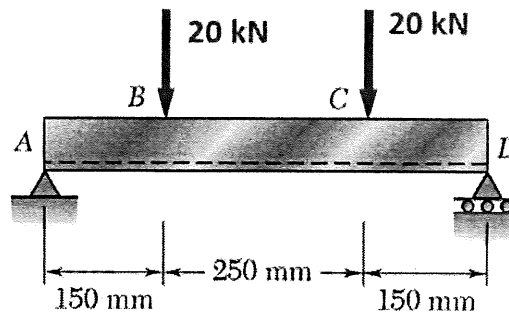

Figure 3
a) Two vertical forces are applied to a beam as shown in Figure 3.